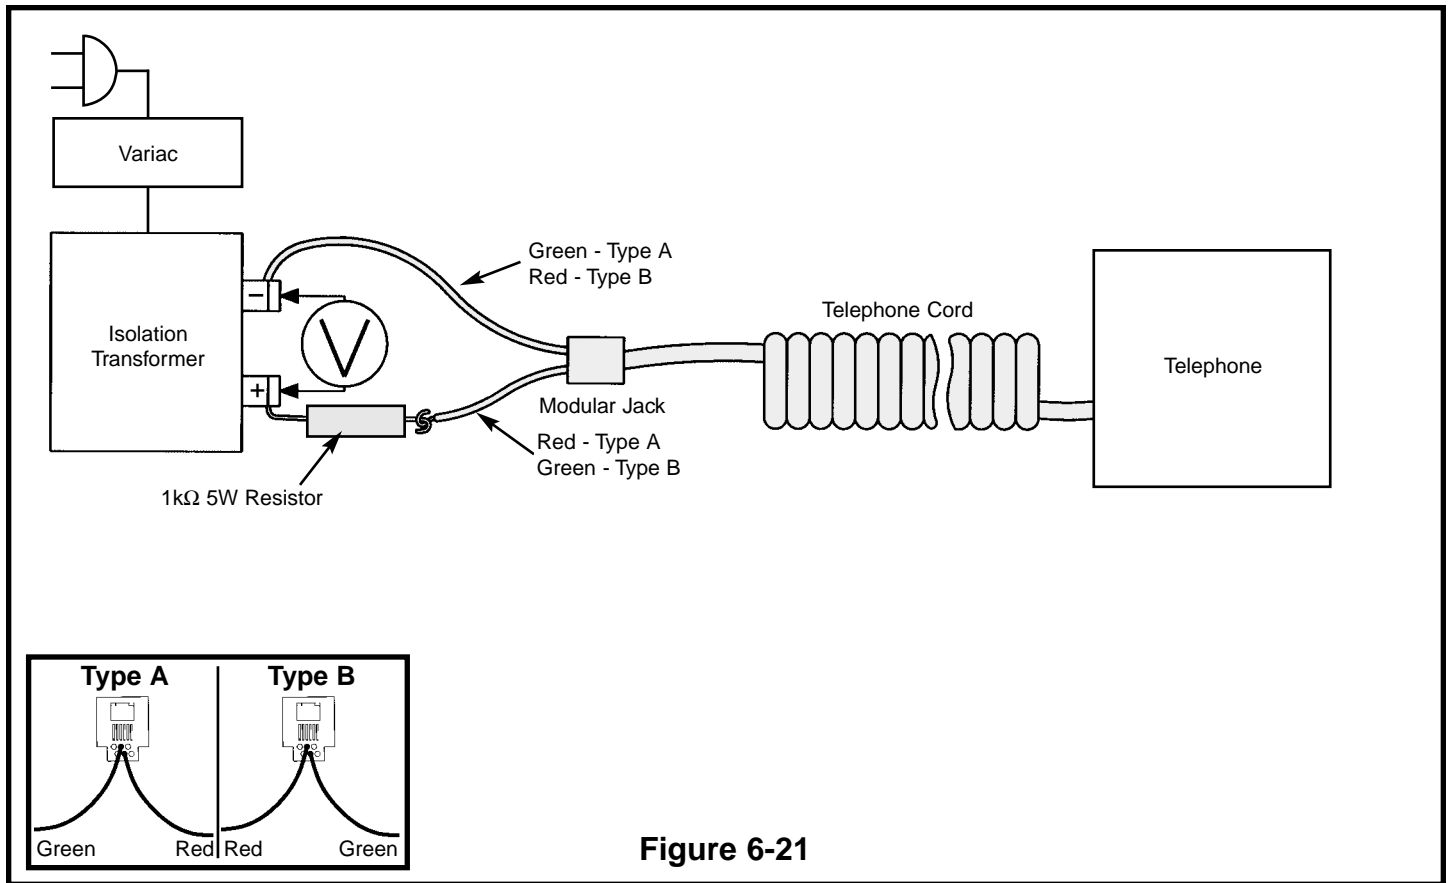

Figure 6-21
RINGER TEST - Refer to Figure 6-21 for the ringer test configuration.
1. Set the variac to 0 and connect the variac, isolation transformer, 1kΩ resistor, modular jack, and voltmeter as shown in the Figure 6-21. Do not connect the telephone cord.